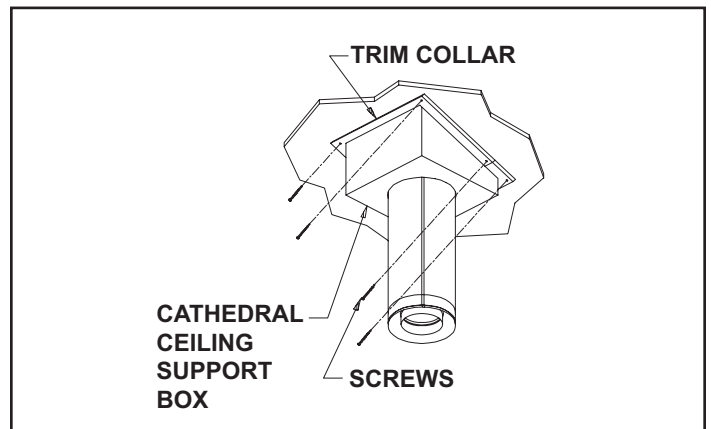

Figure 5.19
**Step 8** - Install the black trim collar around the outside of the cathedral ceiling support box (Figure 5.19). The two pieces of the trim collar slide over one another to allow for easy adjustment around the support box. Using the six screws provided, secure the four corners and the overlapping sections of the trim collar to the ceiling. You may want to predrill the holes for the overlapped sections for ease of installation.